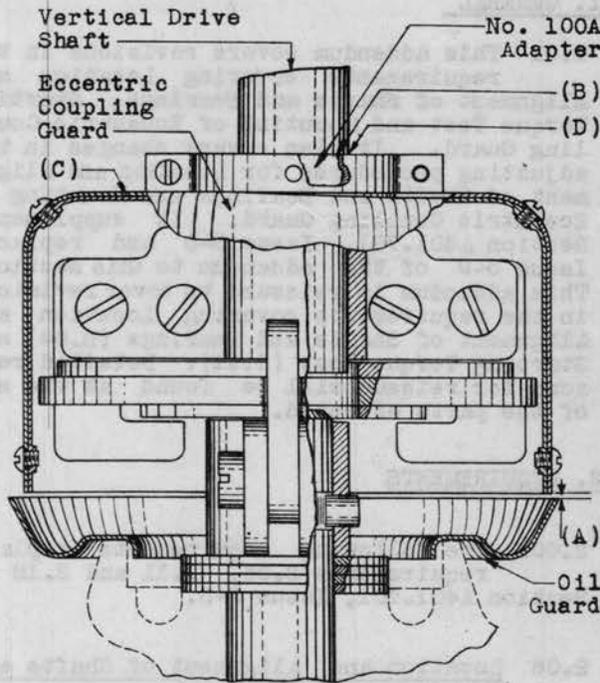
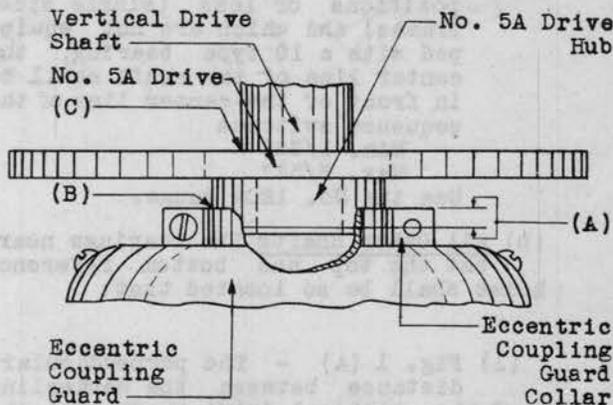

Fig. 2
Fig. 3
(a) Fig. 2 (A) - The vertical clearance between the bottom edge of the eccentric coupling guard and the upper edge of the oil guard shall be  $1/16"$   $\pm$   $1/64"$ . Gauge by eye.
(b) Fig. 2 (B) - The upper surface of the eccentric coupling guard collar shall be approximately flush with the upper surface of the associated No. 100A adapter unless the adapter mounts directly against the No. 5A drive hub in which case the coupling guard collar may extend up above the adapter. Gauge by eye.
(c) Fig. 3 (A) - When the eccentric coupling guard mounts on a No. 5A drive hub it shall overlap the straight sides of the hub by approximately  $5/32"$  except in cases where the No. 100A adapter is mounted directly against it. Gauge by eye.
(1) Fig. 2 (C) - The joints where the eccentric coupling guard halves overlap.
- (2) Fig. 2 (D) - The joints between the eccentric coupling guard collar and the No. 100A adapter (where used) and the slots in the collar.
- (3) The slots in the No. 100A adapter and the joint between the adapter and the shaft.
- (4) Fig. 3 (B) - The joints between the eccentric coupling guard collar and the No. 5A drive (where used to mount the coupling guard) and the slot in the collar.
- (5) Fig. 3 (C) - The joint between the No. 5A drive and the shaft.